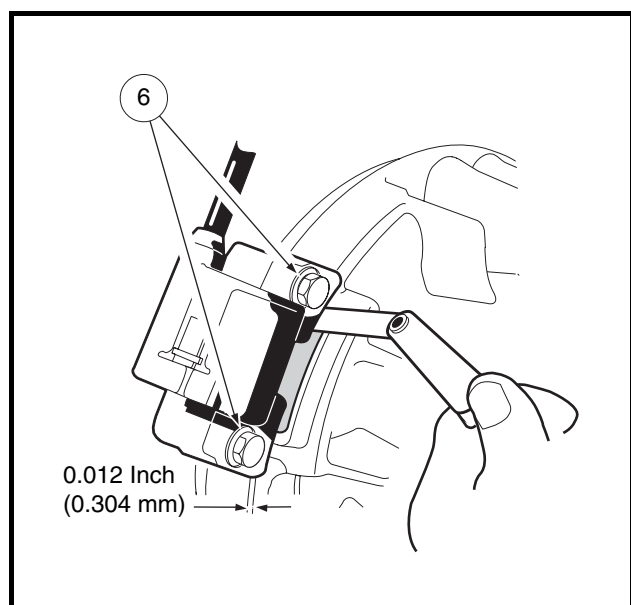

Figure 12-28 Mount Ignition Coil Using Feeler Gauge
4. Remove the grommet (4) from the old spark plug wire. Clean the grommet and place it on the new spark plug wire (5).
5. Install the protector tube (3) onto the new wire.
6. Slide the gasket (1) onto the end of the new spark plug wire.
7. Install the cap (2) on the new coil spark plug wire by rotating it clockwise three or four revolutions while applying light pressure on the cap.
8. Install the gasket (1) on the cap (2).
9. Position the ignition coil (7) onto the cast mounting bosses on the engine crankcase and tighten the two mounting bolts (6) finger-tight.
10. Rotate the flywheel (8) until the magnet is positioned directly under the ignition coil. Use a 0.012 inch (0.304 mm) bronze feeler gauge to set the air gap between the ignition coil and the flywheel magnet. Tighten the two mounting bolts (6) to 30 in-lb (3.4 N·m) (**Figure 12-28, Page 12-25**).